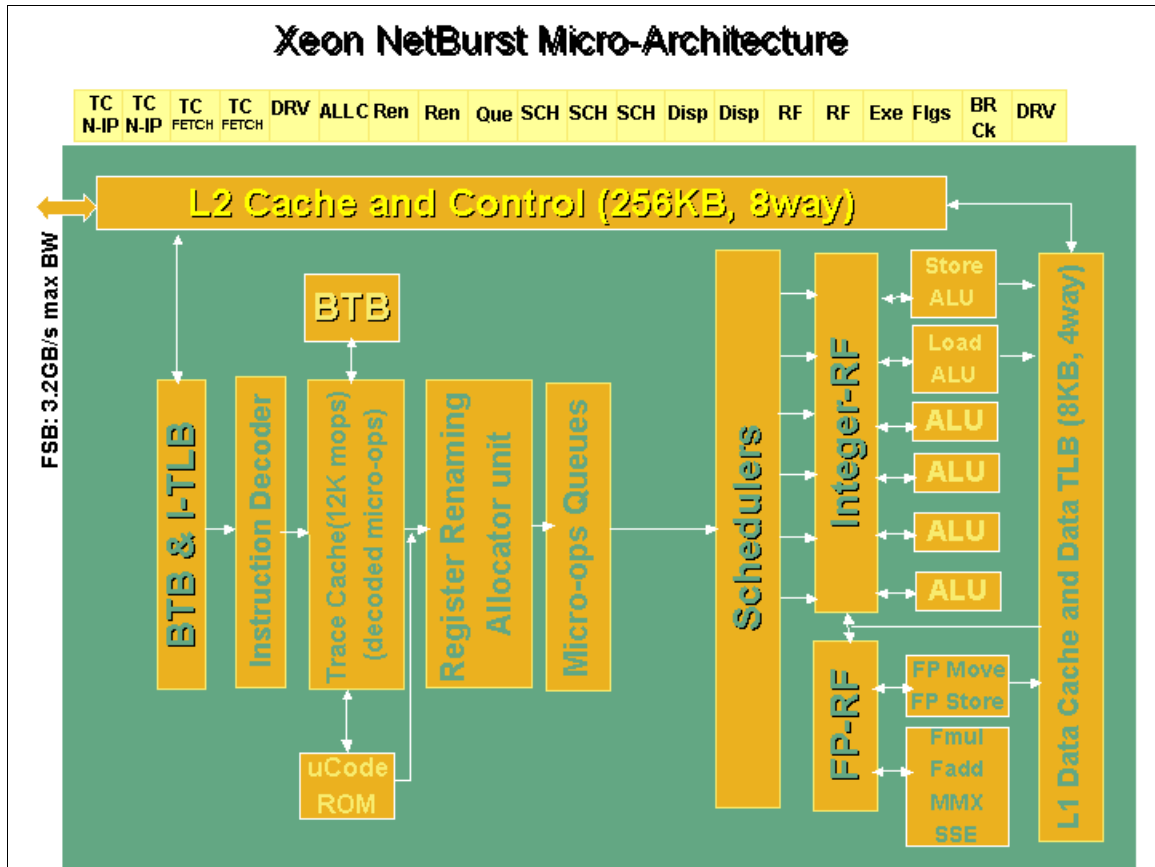
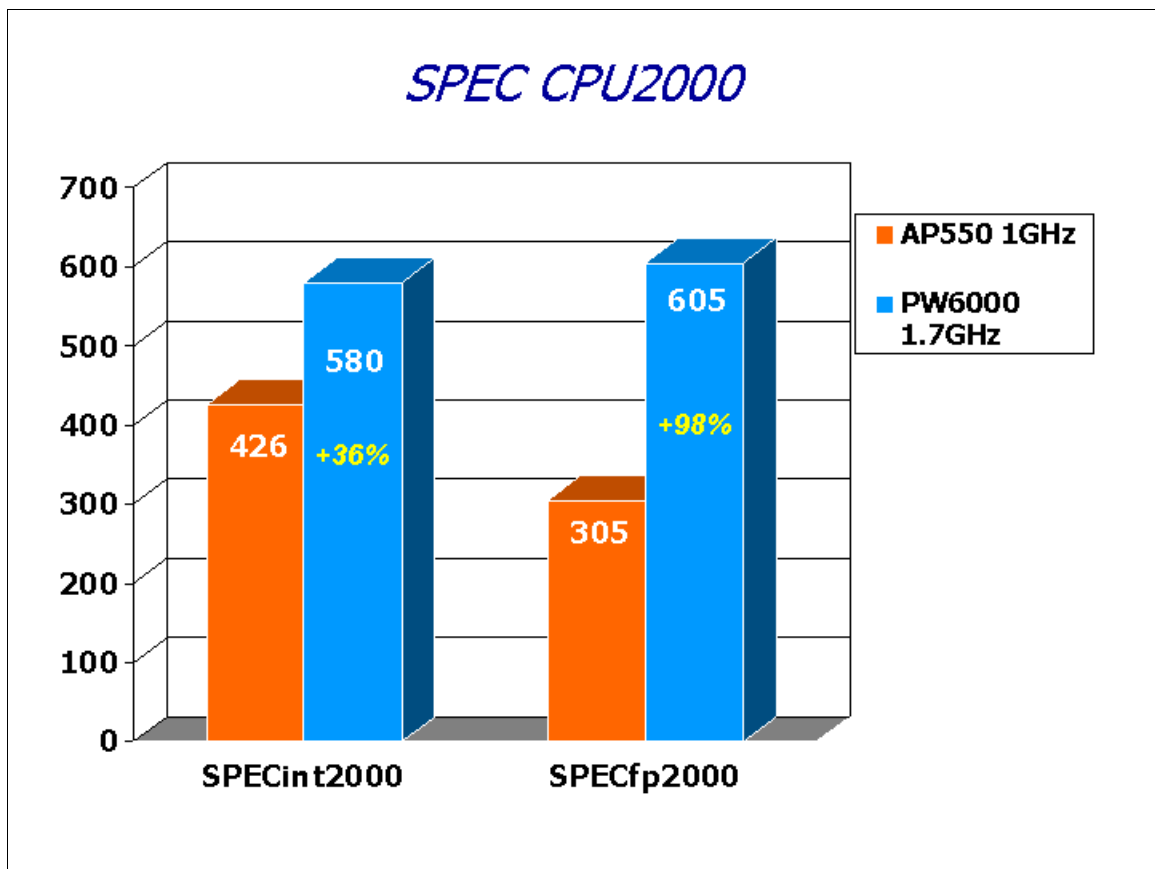

Figure 4: Xeon NetBurst Architecture Overview
Figure 8: SPEC CPU2000 Xeon computing performance versus Pentium III
architecture of the Evo Workstations. Integer-based and basic office productivity applications tend to have more random branches in application code, thus are more difficult to predict. The IPC potential is not high, but the frequency variable in the performance equation will benefit these applications. Using industry standard benchmarks, Figures 8 through 14 illustrate the gains that the new architecture of the Evo Workstations W6000 and W8000 make possible for both vertical workstation applications and horizontal business applications.
Performance improvements for the Workstation W6000 compared to the Workstation AP550 against both these benchmarks are illustrated in Figure 8.
The performance gain in the integer benchmark is due to the redesign of the execution units in the Xeon NetBurst micro-architecture. Multiple ALU units (as was shown in Figure 4) are partitioned to handle simple and complex integer operations. Simple operations (Add/Subtract, Logic, Store Data, Branches) are executed at extremely low latency. Breaking down each of these operations into smaller workloads and staggering this workload at two times the main processor clock rate, these operations are completed effectively in $\frac{1}{2}$ of a main clock cycle. 60-70% of typical integer
Expanding the data path to 128-bit wide and a deep 128-entries floating-point register file, the two floating-point execution blocks (refer to Figure 4) can execute new operations every clock cycle. Floating point, MMX, SSE, and SSE2 instructions typically have operands from 64 to 128 bits in width. For the Pentium III processor, 128-bit operation is executed by two (2) 64-bit operations. In addition to fast execution units, the deep buffering (wide view) of in-flight instructions (126 micro-ops – see the Advanced Dynamic Execution discussion in the section titled *The Intel Xeon Processor*) allows the out-of-order execution hardware to examine large sections of programs at one time. This ability allows the processor to overlap long-latency instructions (floating point/SSE) and memory instructions by finding independent instructions to work on simultaneously. Floating-point applications usually have either large datasets that do not fit well in L1 data cache but do fit in L2 data cache, or that stream data directly from system memory. The improvement in cache bandwidth to 54.4GB/s and system-bus improvement at 3.2GB/s improves performance of these applications significantly. These improvements in the Xeon micro-architecture result in significant gains in the SPEC floating point benchmark, such as illustrated in Figure 8.